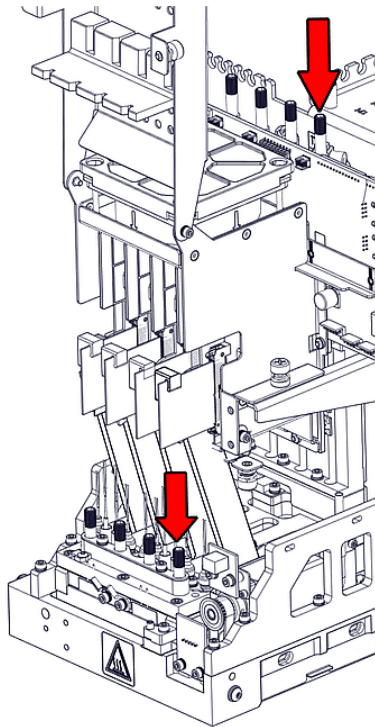

Figure 4-121 Releasing the print head
19. Tighten the upper and lower screws that secure the print head in the print block (see Figure 4-121 on the previous page).